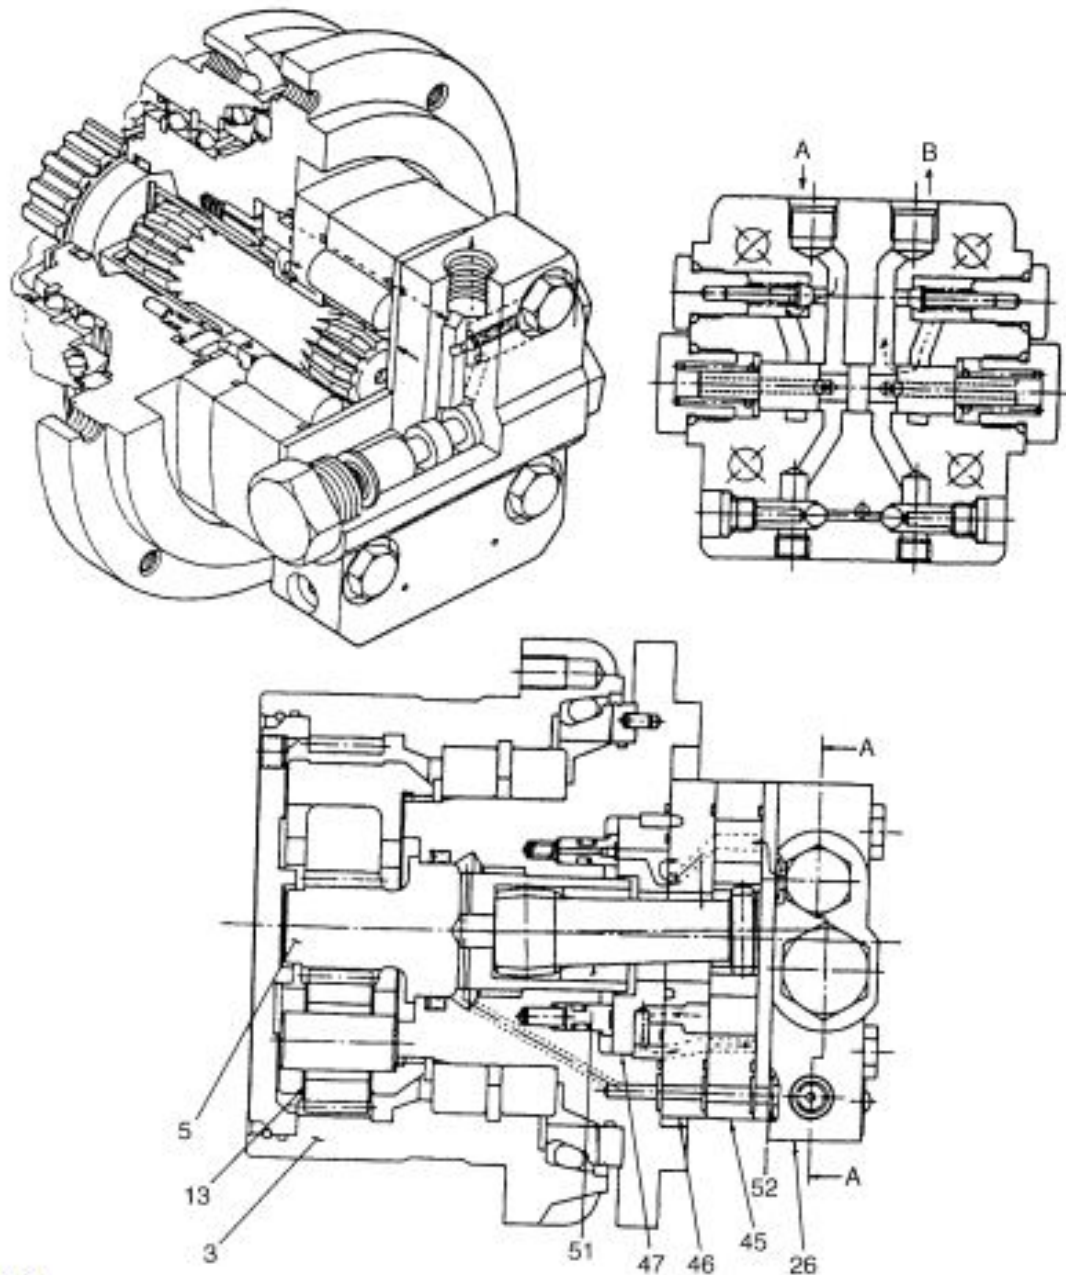

Figure 7-1
The shaft (5), connected by the idle gear (13) to the wheel (3), causes a reduction in rpm and an increase in torque of the wheel (3). See Figure 7-1.